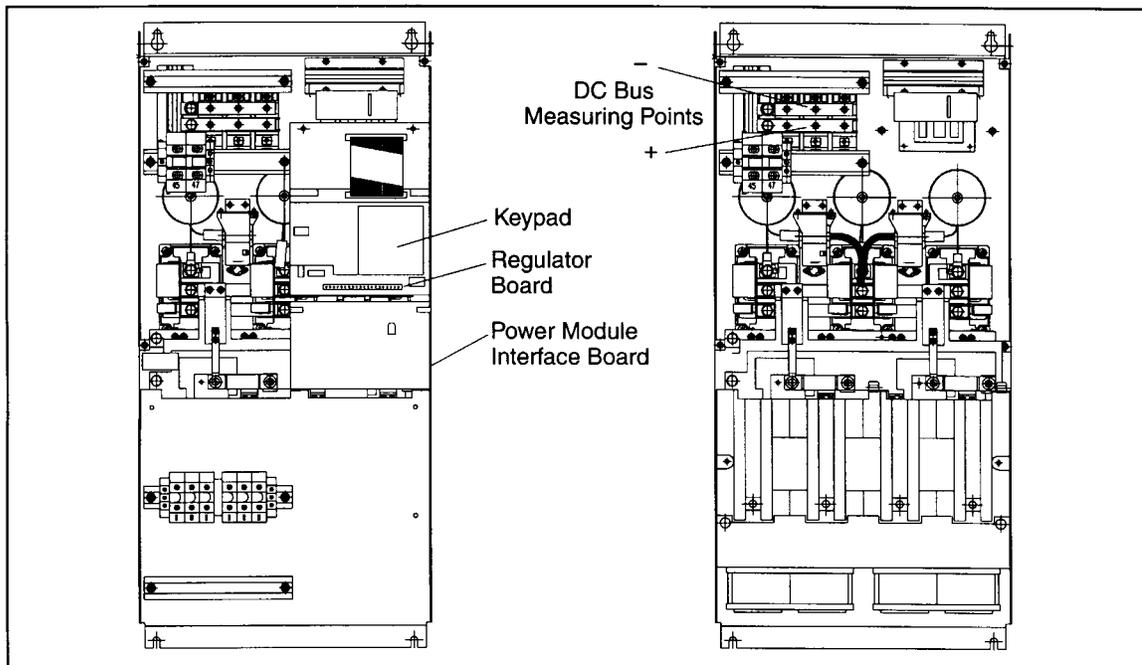

Figure 2.14 – DC Bus Voltage Terminals and Components (50 to 100 HP)
- ii. **50 to 100 HP @ 460 V only:** Use a voltmeter to measure the DC bus potential at the diode bridge. Refer to figure 2.14.
See figure 2.14 (50 to 100 HP drives) or 2.15 (100 to 150 HP drives) for part locations.